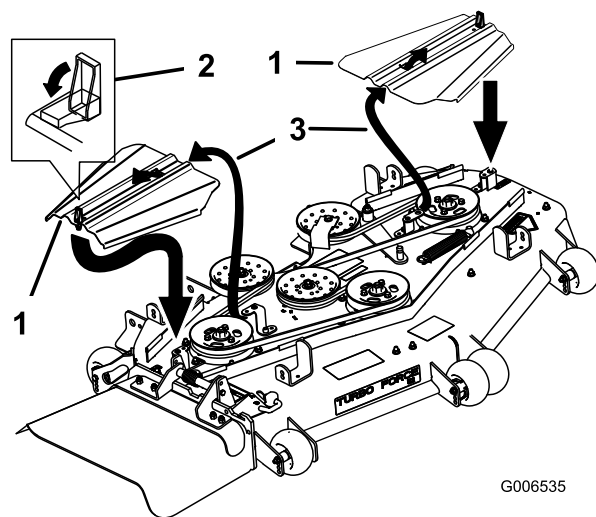

Figure 76
12. Install the belt covers by sliding the cover into the tab, install the bolts, and close the latches (Figure 76).